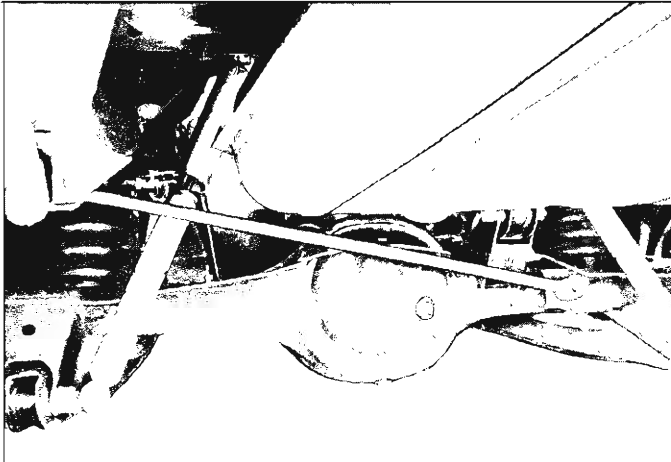

Fig. 32—Rear Suspension Tie Rod Attaching Points
1. Remove the nut, washer and bolt from the left hand side and the nut and washer from the stud on the right side that secure the tie rod to the brackets (fig. 32). Withdraw the rod from under the vehicle. An external shell service bushing is available for replacement.
2. Install the bolt, lockwasher and nut to the left hand bracket (fig. 32). Do not tighten.